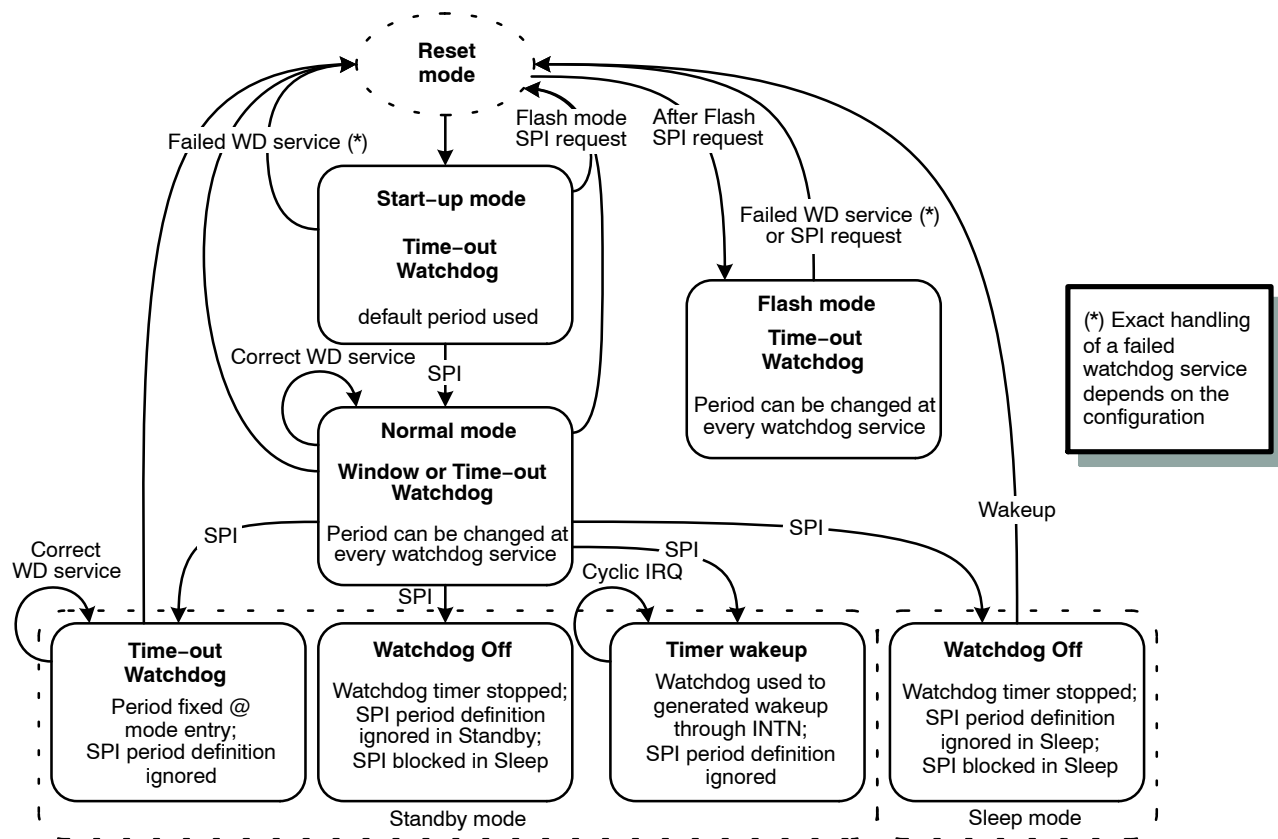
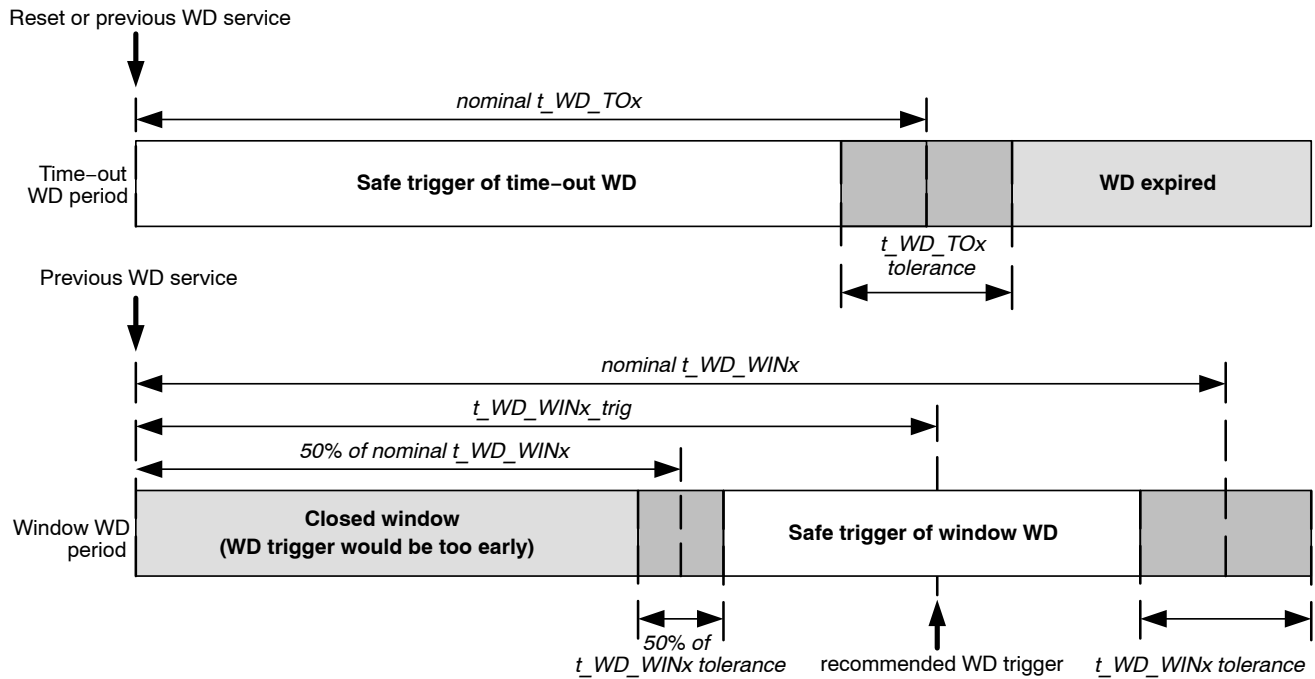

Figure 14. Watchdog Modes
Figure 15. Structure of the Time-out and Window Watchdog Period
The available modes of the watchdog timer are shown in Figure 14, with the watchdog period specified in Figure 15:
- The watchdog trigger moment falls into the correct watchdog trigger interval (see Figure 15) – in the case of the time-out watchdog, it arrives before the watchdog period expires; in the case of the window watchdog, it arrives during the second half of the window interval. In both cases, tolerance of the watchdog timing parameters shall be taken into account.